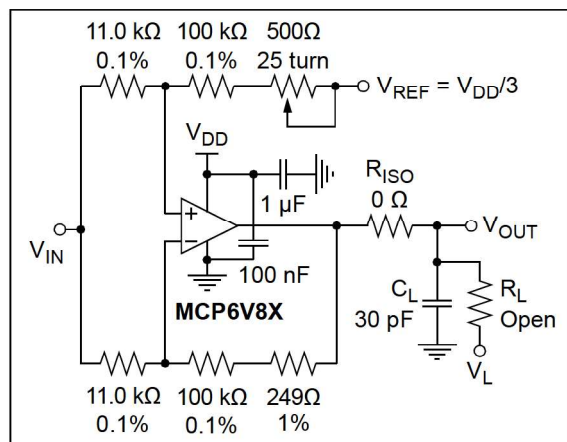

FIGURE 1-6: Test Circuit for Dynamic Input Behavior.
- Note 1:** These parameters were characterized using the circuit in Figure 1-6. In Figures 2-36 and 2-37, there is an IMD tone at DC, a residual tone at 1 kHz , and other IMD tones and clock tones. IMD is Referred to Input (RTI).
The circuit in Figure 1-6 tests the input's dynamic behavior (i.e., IMD, t_{STR} , t_{STL} and t_{ODR}). The potentiometer balances the resistor network (V_{OUT} should equal V_{REF} at DC). The op amp's Common-mode input voltage is $V_{CM} = V_{IN}/2$. The error at the input (V_{ERR}) appears at V_{OUT} with a noise gain of 10 V/V.